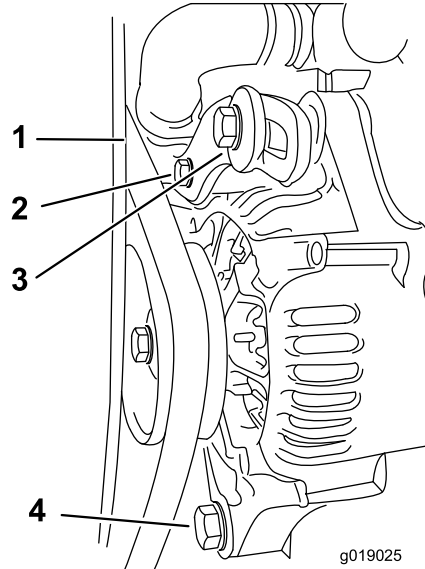

Figure 39
1. Push the drive belt with your thumb in the area shown to check the tension (Figure 39).